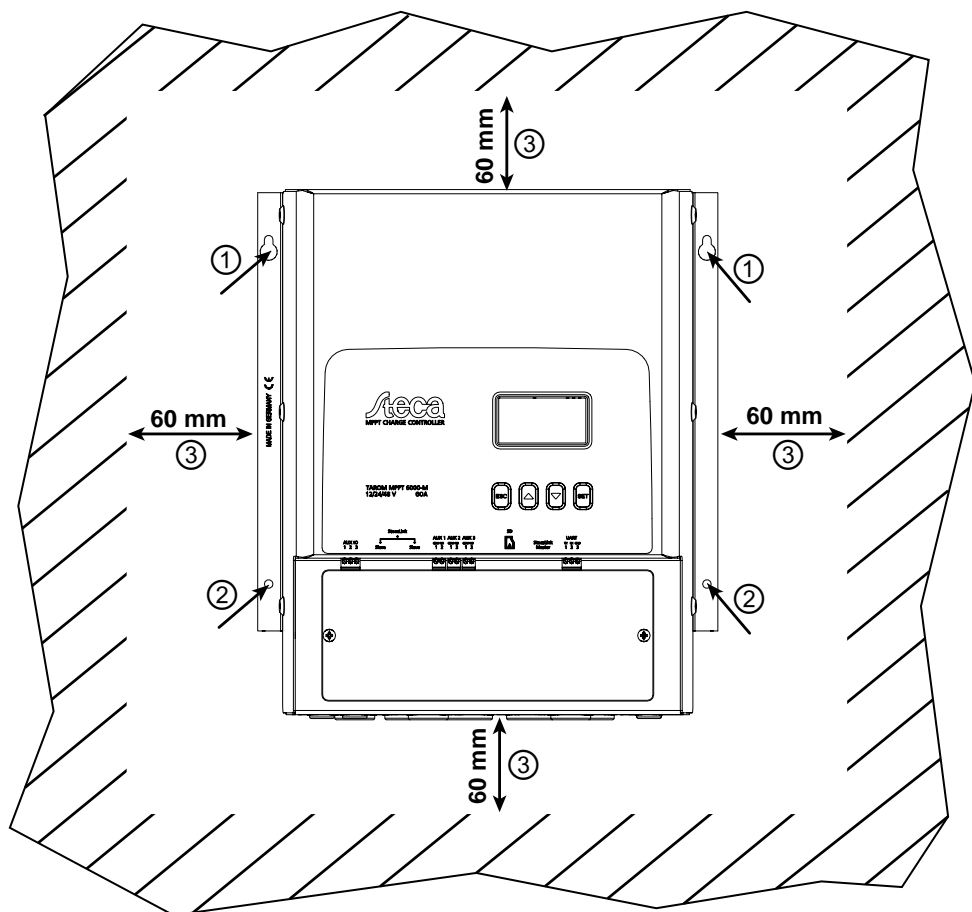

Fig. 5: Fastening openings ①/② and free space ③
- A free space of at least 60 mm must be present on all sides of the controller (③ in Fig. 5).
- Do not drill through the fastening openings ①/② (Fig. 5).
2.  Position the controller level on the mounting surface and mark the mounting holes through the fastening openings ①/② shown in Fig. 5.